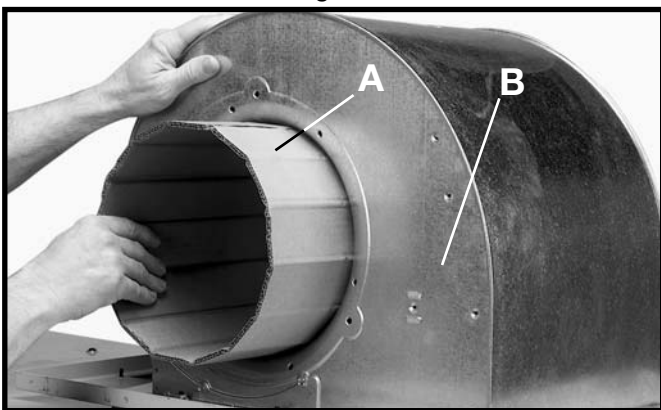

Fig. 2C
3. Remove the cardboard protector (A) from the blower housing (B) Fig. 2C.